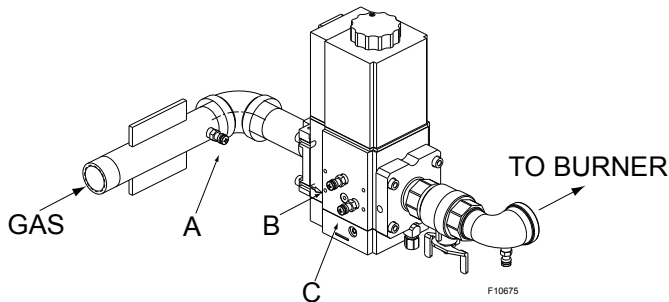

Figure 42. Gas Pressure Measurement Locations
2. Attach (1) 12" scale manometer to an upstream bleedle valve on the gas supply pipe to the heater. Measure point "A" in **Figure 42**.